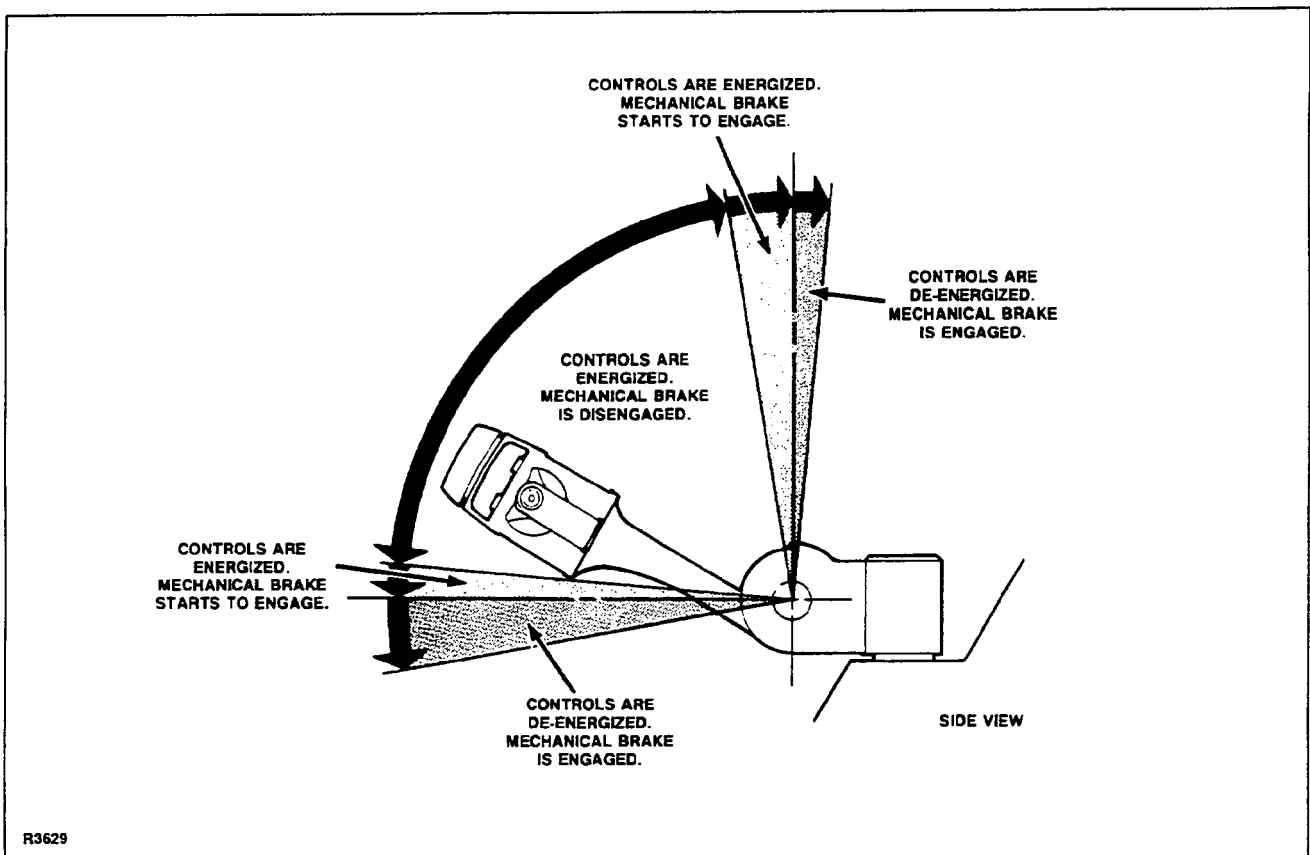

Figure 6-1. Brake Engage/Disengage
If the mechanical brake does not begin to hold when the steering arm is raised or lowered into the lightly shaded area in Figure 6-1, proceed as follows:
4. Secure steering arm assembly in a position that is in either lightly shaded area shown in Figure 6-1.